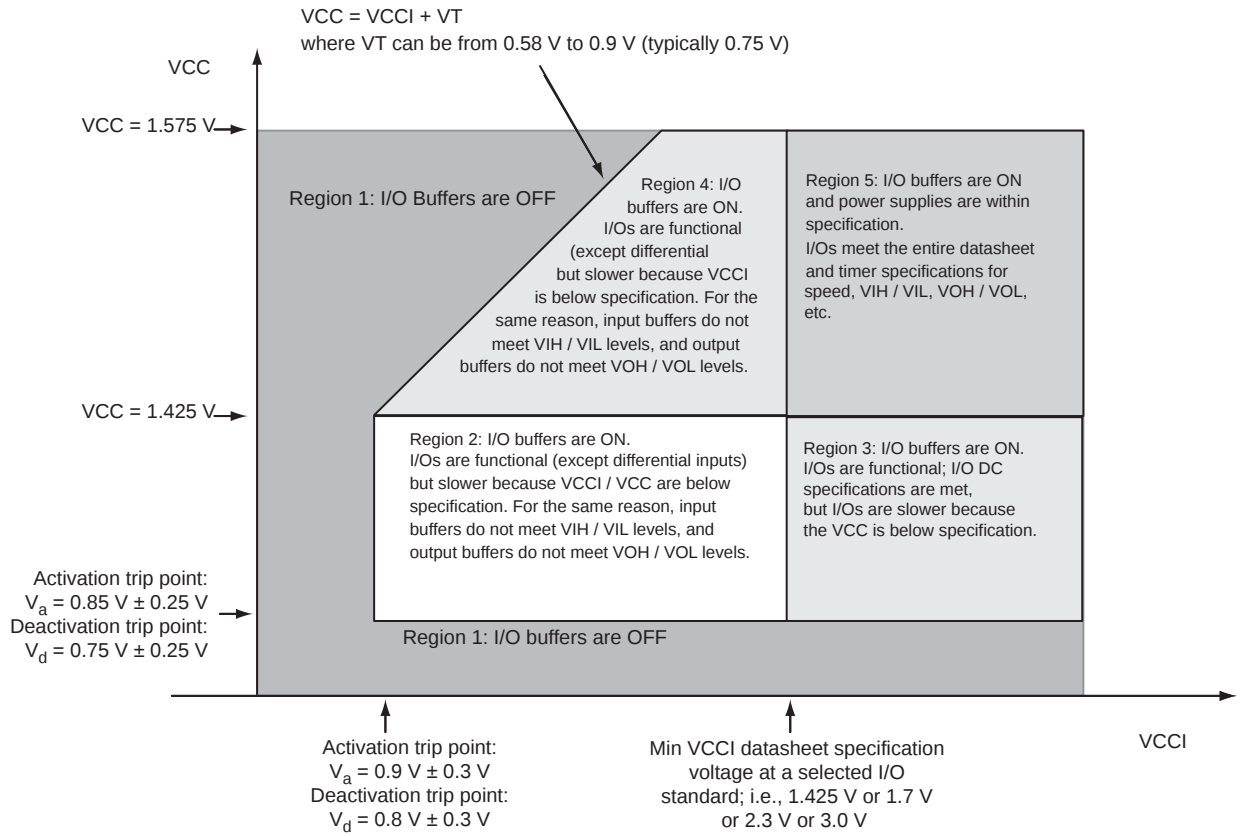
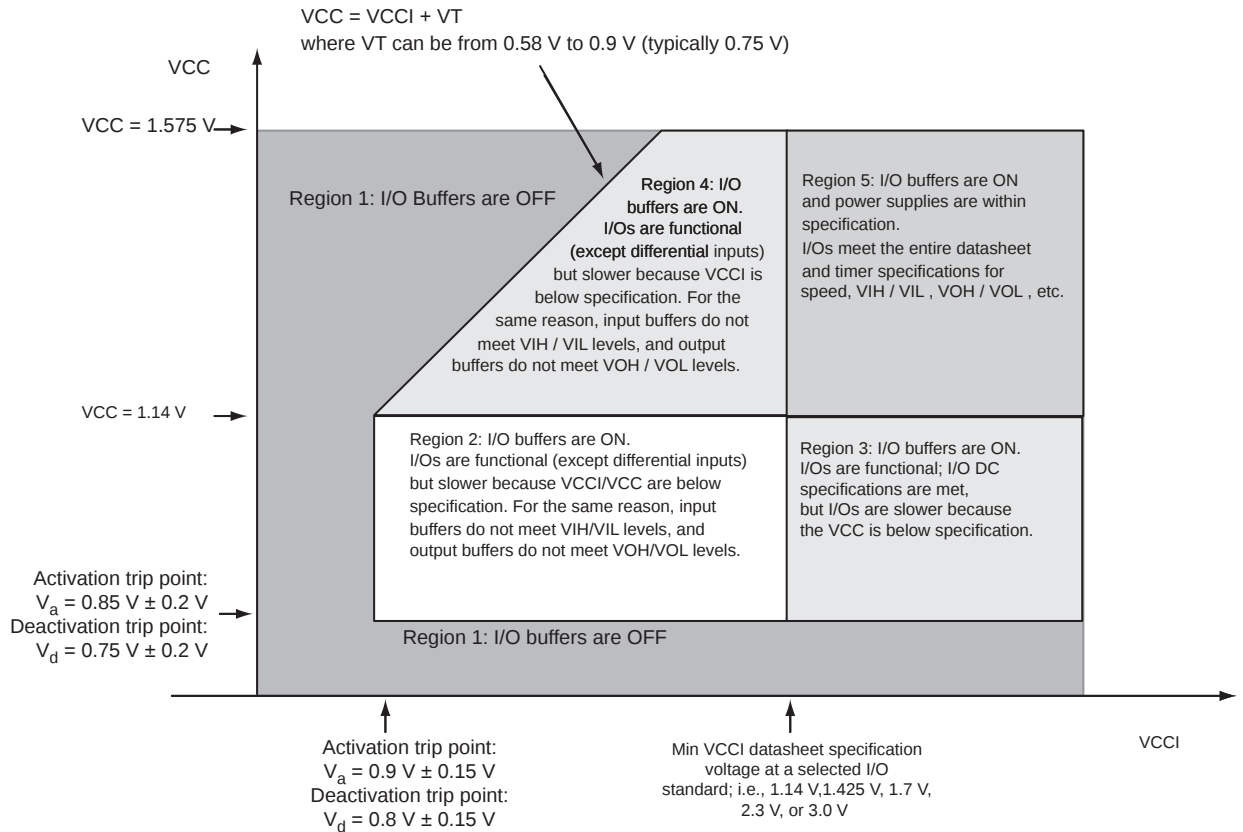

Figure 2-2 • Devices Operating at 1.5 V Core Voltage – I/O State as a Function of VCCI and VCC Voltage Levels
Figure 2-3 • Devices Operating at 1.2 V Core Voltage – I/O State as a Function of $VCCI$ and VCC Voltage Levels
Sophisticated power-up management circuitry is designed into every ProASIC[®]3 device. These circuits ensure easy transition from the powered-off state to the powered-up state of the device. The many different supplies can power up in any sequence with minimized current spikes or surges. In addition, the I/O will be in a known state through the power-up sequence. The basic principle is shown in Figure 2-2 on page 2-5 and Figure 2-3 on page 2-6.
1. VCC and VCCI are above the minimum specified trip points (Figure 2-2 on page 2-5 and Figure 2-3 on page 2-6).
Microsemi recommends using monotonic power supplies or voltage regulators to ensure proper power-up behavior. Power ramp-up should be monotonic, at least until VCC and VCCPLX exceed brownout activation levels. The VCC activation level is specified as 1.1 V worst-case (see Figure 2-2 and Figure 2-3 on page 2-6 for more details).